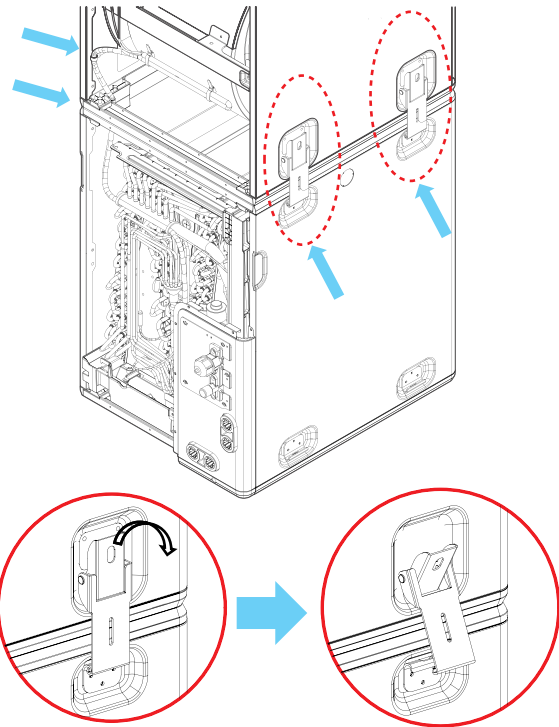

Fig. 1-8: Unlock the 4 Latches
7. Unlock the 4 latches. See Fig. 1-8